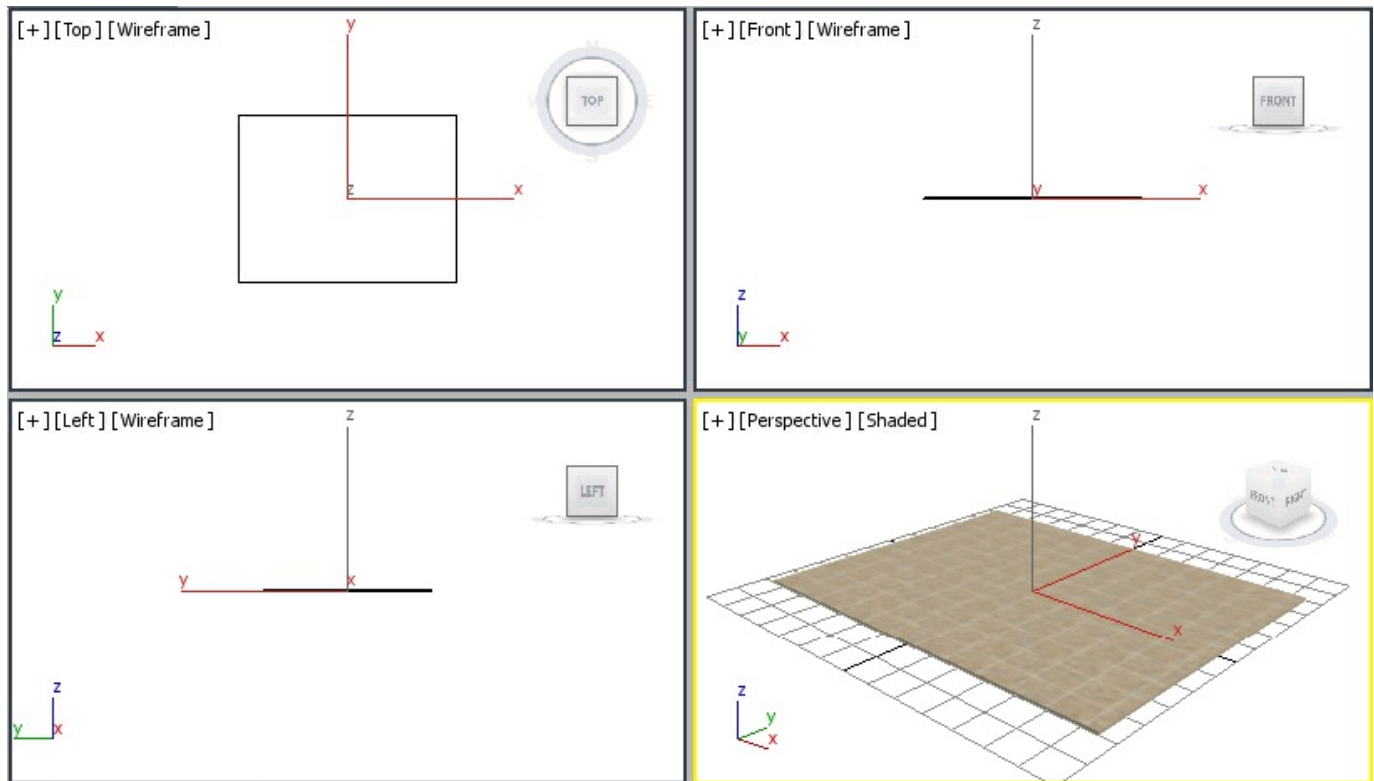

Figure P1-2 Floor created and a material assigned to it
11. Choose the **Show Shaded Material in Viewport** tool; the applied material is displayed in the Perspective viewport. Next, rotate the Perspective viewport to set an angle of view, as shown in Figure P1-2.